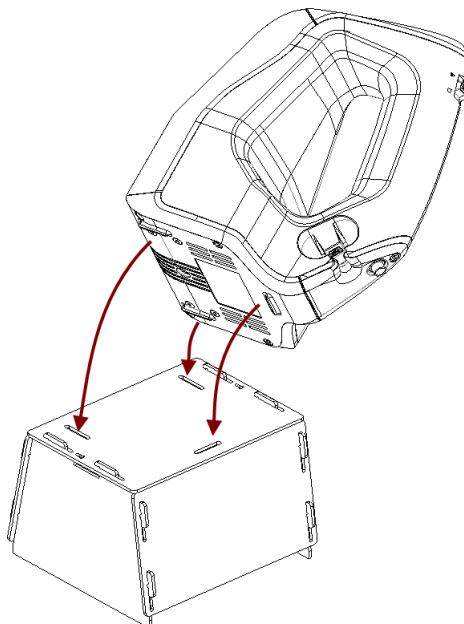

Figure 156: Placing Artec Spider on the stand
3. Place the scanner on the scanner stand, making sure that you insert the three scanner stems in the three slots of the stand cover (see Figure 156).